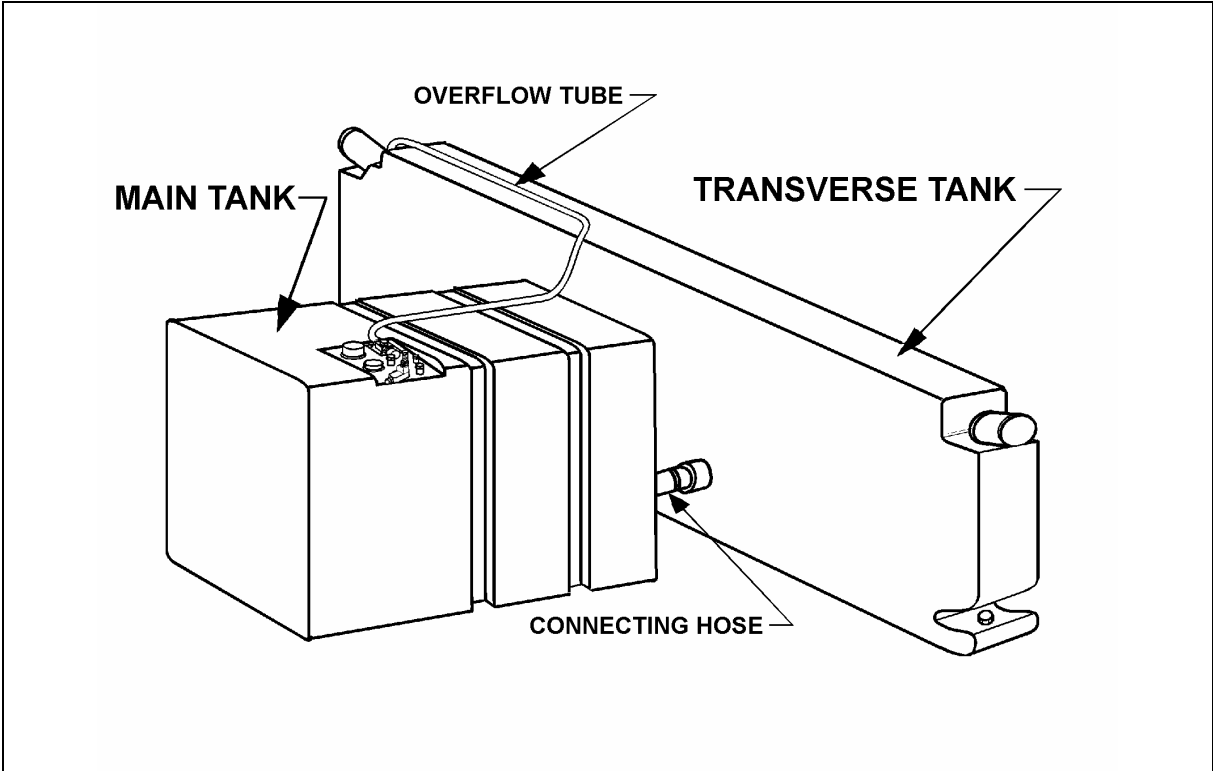

FIGURE 7: 250 US GALLONS FUEL TANKS (MAIN TANK & TRANSVERSE FUEL TANK) (MTH 40 & MTH 45E)
5. Place assembly in drill hole. tighten screw by 10 complete turns. Refer to Fig. 7.